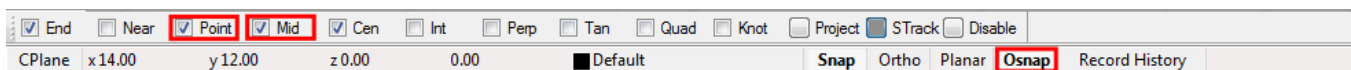

Figure 25: The “Osnap”, “Mid” and “Point” snap buttons.
- ☛ Enable object snap (“Osnap”) “Mid” snap and “point” snap as shown in Figure 25